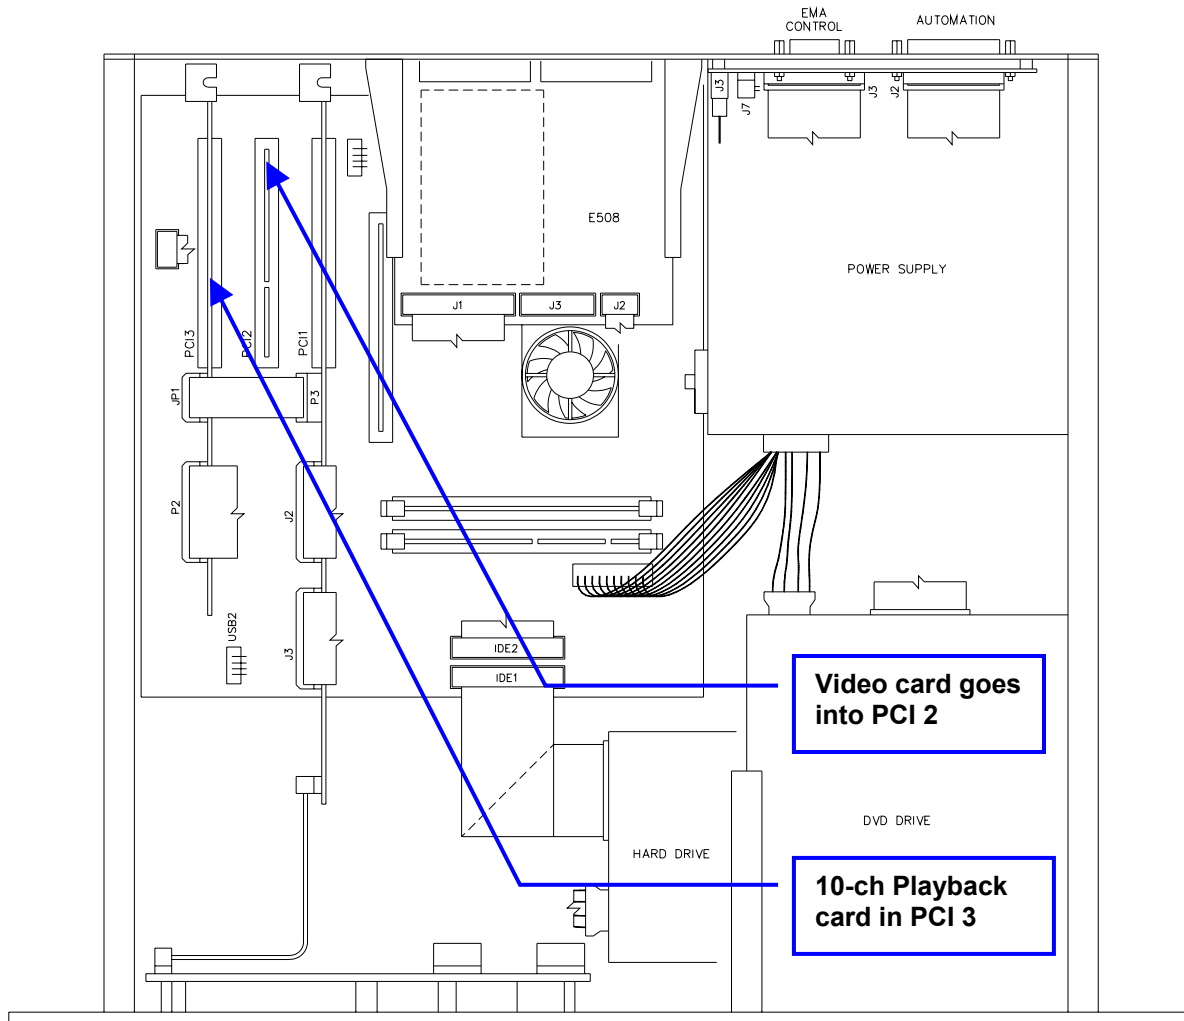

Figure F-1. XD10, Cover Removed
3. Remove the metal cover over the PCI slot that is second from the left side of the unit (Figure F-1, above). Keep the screw.
- b. If using CSS, connect the “Projector Video” on the XD10 to “video in” on the splitter using the extra video cable (item 8.b under *Required Components*, previous page). Then install the 15 pin end of the “overlay cable” into the “video 1” output of the splitter. CSS connects to “video 2” output of the splitter. The splitter must be powered by the 12 VDC transformer (wall adapter) that is supplied.
7. Connect the audio cable from the video card’s “digital out” to the input marked “VID” on the 10-ch Playback card in PCI 3 (the card nearest the left side in Figure F-1, above).